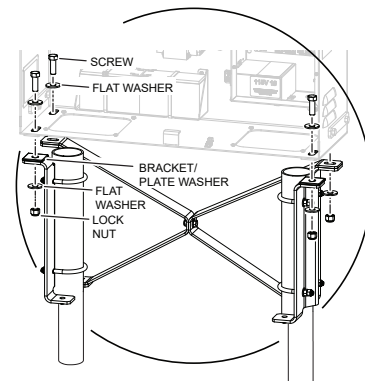

Figure 10. SlideSmartDC HD to Base Riser
8. With assistance, lift, set, and align gate operator on brackets. See Figure 10.
9. Secure the operator to the brackets using a bolt (4), flat washer (8), and lock nut (8). See Figure 10.